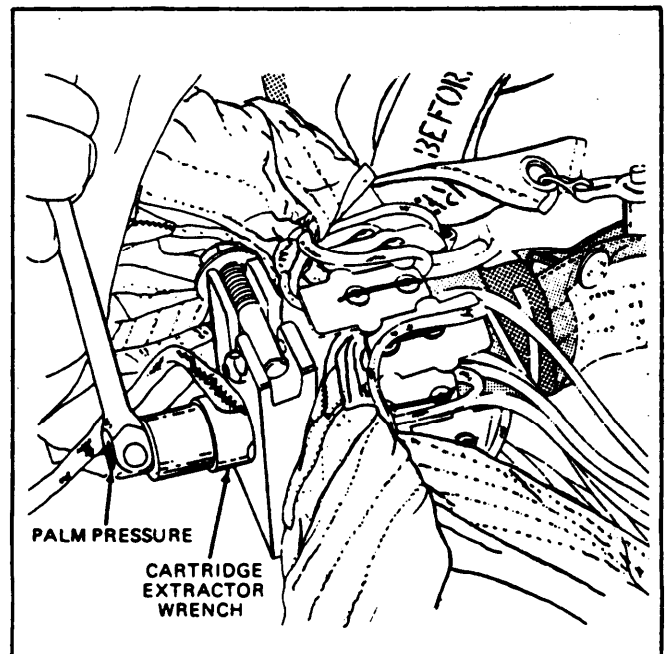

Figure 2-23.—Loosening cartridge.
4. Place the pins of the cartridge extractor wrench into holes in the cartridge. Loosen the cartridge using pressure against a 3/4-inch socket, as shown in figure 2-23.